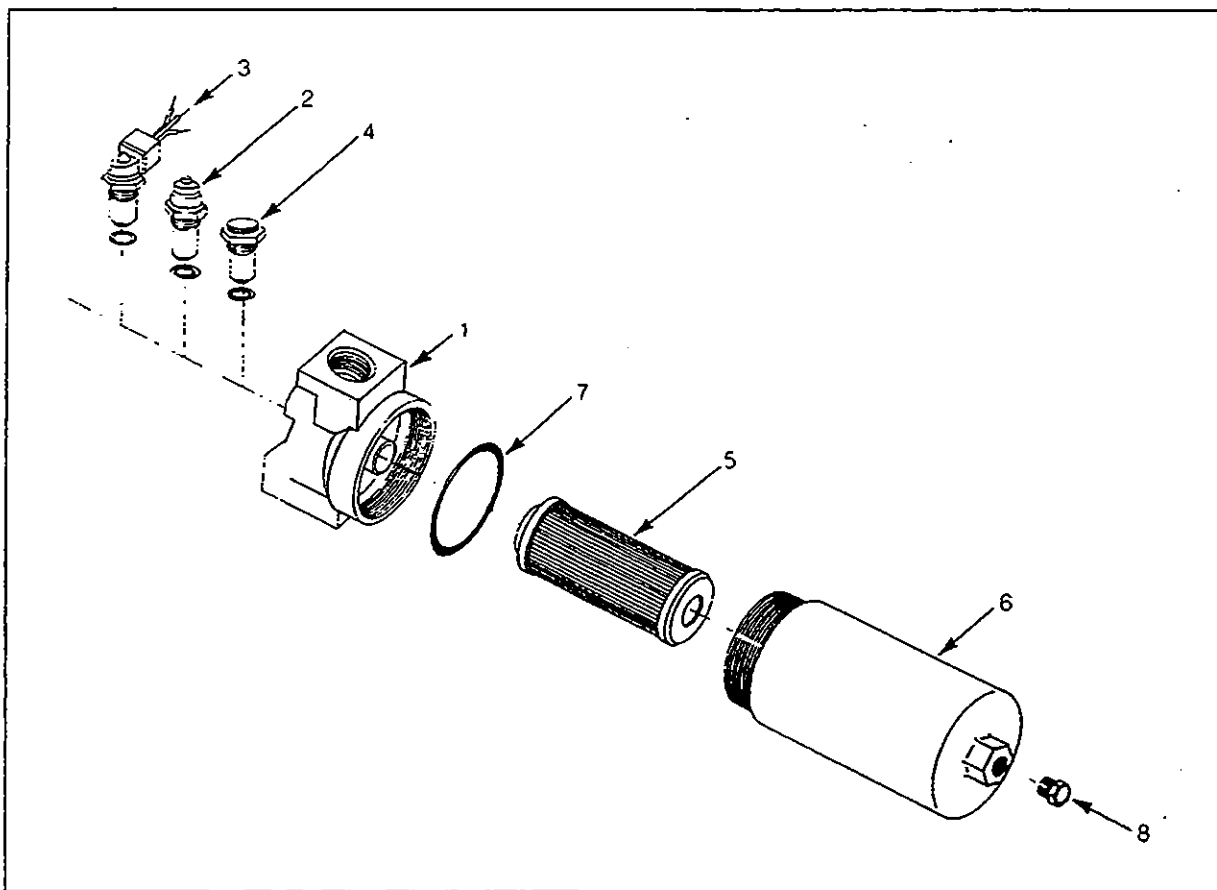

Figure 38: Water Filter
12.4.3 Filter Servicing (Fig. 38)